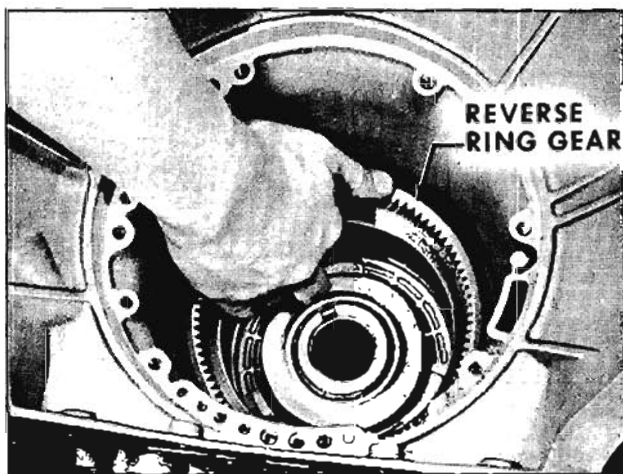

Fig. 6-289 Removing Reverse Ring Gear
2. Remove reverse ring gear from case. (Fig. 6-289)